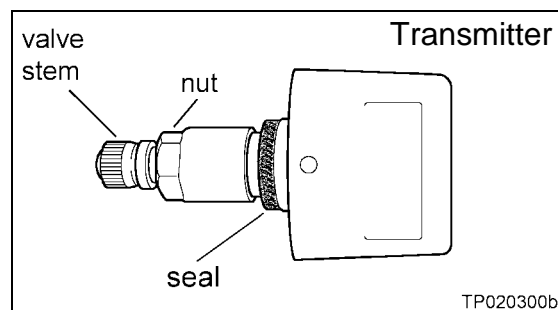

Figure 2
2. Remove the seal at the base of the valve stem on the transmitter (see Figure 2).